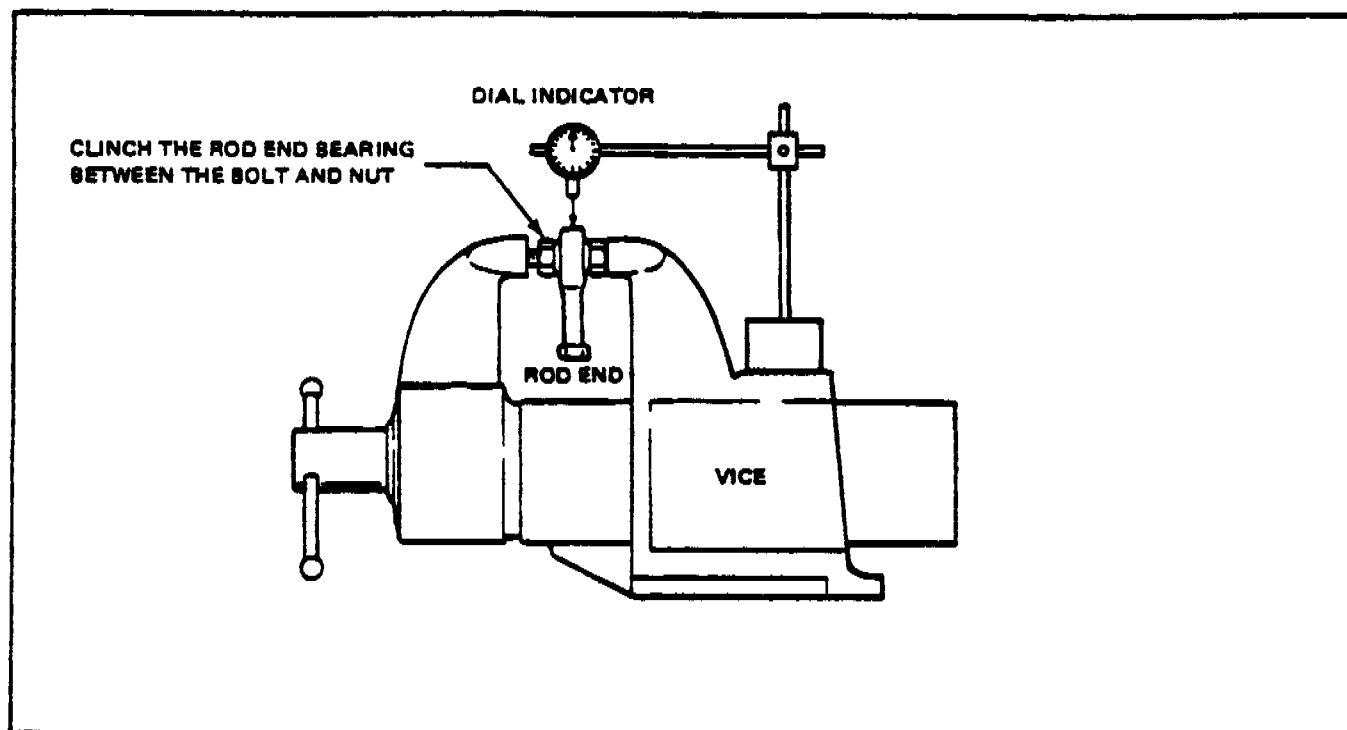

FIGURE 6-41. INSPECTION OF ROD END BEARINGS
- d. Inspect rod ends for wear by clinching the bearing between a bolt and nut arrangement as shown in Figure 6-41, and using a dial indicator measure the total free play between the ball and race, the maximum service limit is .005 of an inch.